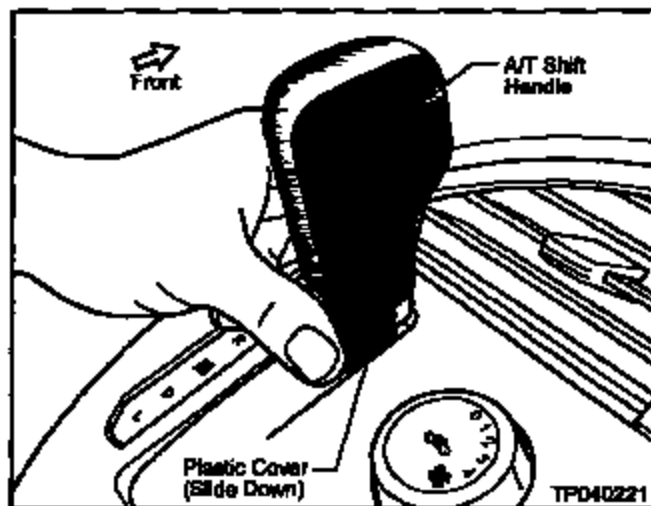

Figure C1
- a. At the base of the A/T Shift Handle, slide the Plastic Cover down to reach the Release Clip (see Figure C1).